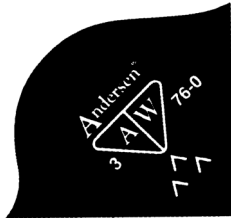

Fig 4. High altitude glass.
- 1974 to Present High altitude designation was changed to a "^^" located under the logo (figure 4).